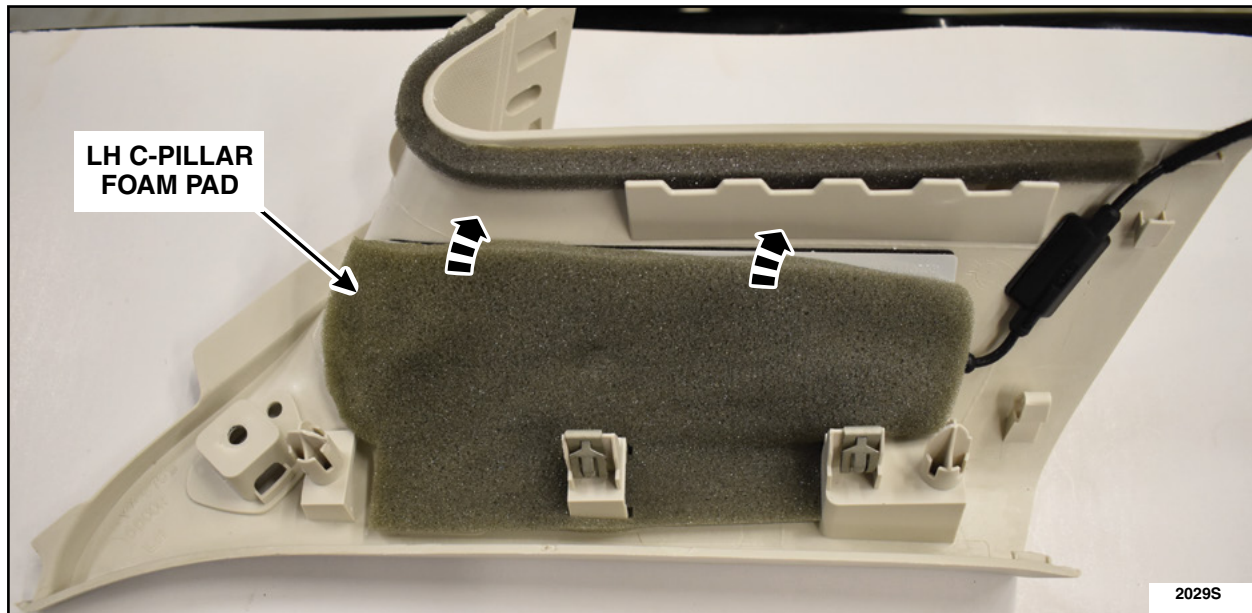

FIGURE 5
6. Remove the tape and position back the LH C-pillar foam pad. See Figure 5.